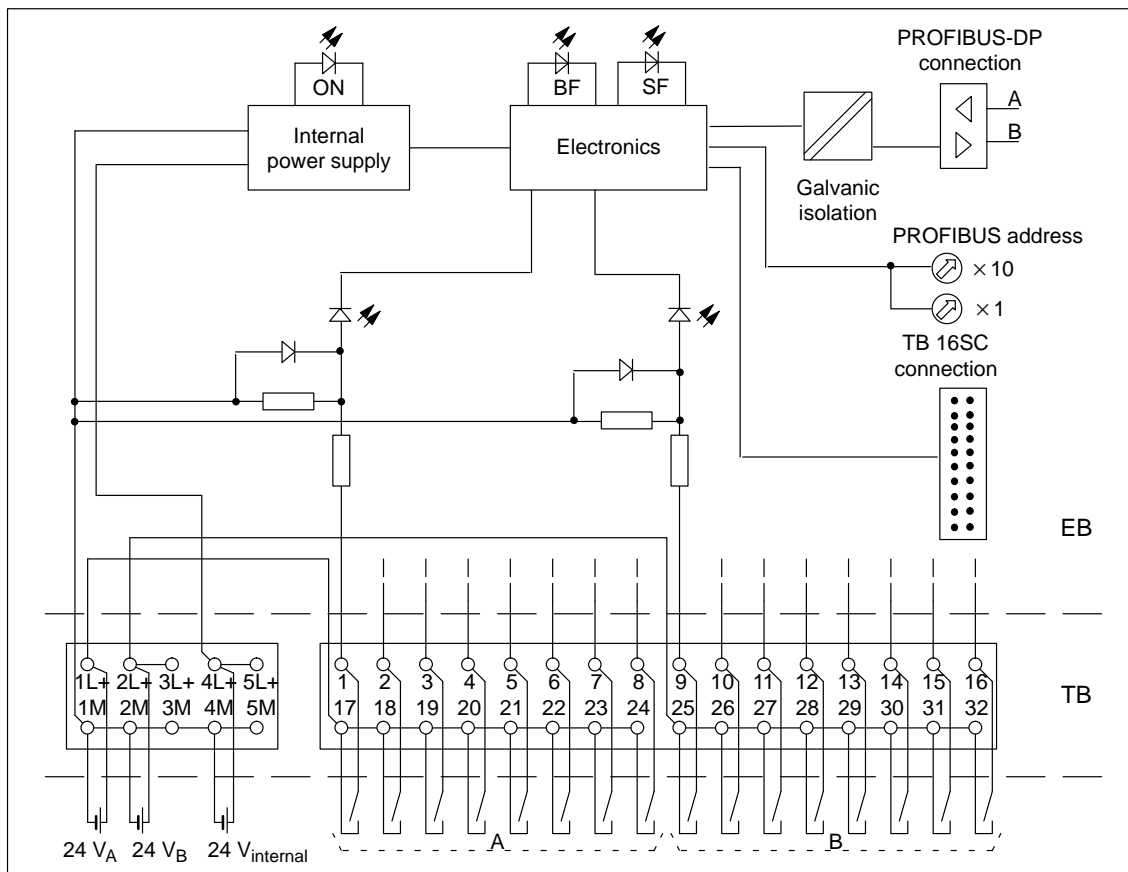

Figure 9-4 Block Diagram of the L-SC 16 DI DC 24 V Electronics Block
**Block Diagram** Figure 9-4 shows the block diagram.